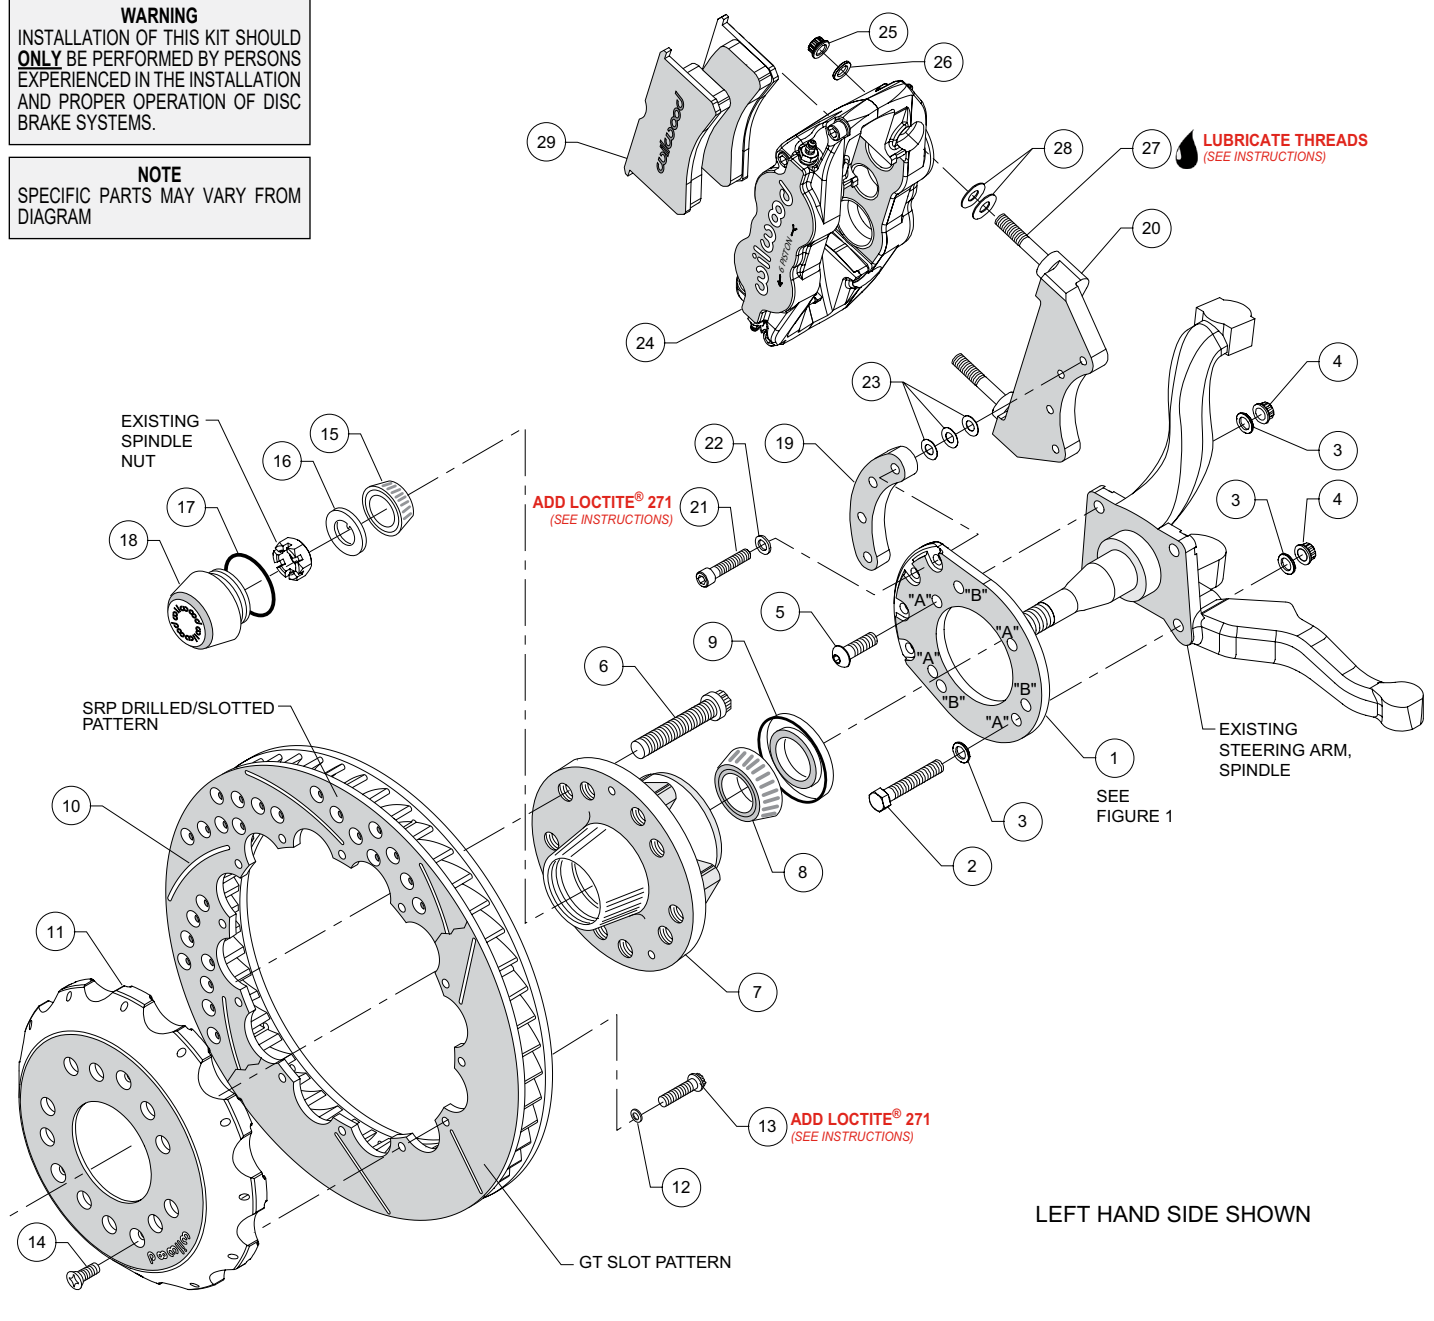

Figure 2. Typical Installation Configuration
NOTE: Numbers in parenthesis refer to the parts list and Figure 2 on the preceding pages.
•Align bracket, using the four "A" holes, to the face of the spindle and attach using bolts (2 and 5), washers (3), and lock nuts (4), as shown in Figure 2 and Photo 1. Temporarily tighten the mounting bolts. **NOTE:** The bracket must fit squarely against the mounting points on the spindle. Inspect for interference from casting irregularities, machining ridges, burrs, etc. Torque lock nuts (4) to 25 ft-lb.
•Install wheel studs (6) into the hub (7), Photo 2. Torque to 77 ft-lb. **NOTE:** There are two five lug patterns in the hub (5 x 4.50 and 5 x 4.75). Ensure the correct hub stud pattern is being used to fit the wheel application.
•Pack the large inner bearing cone (8) with high temperature disc brake bearing grease (available from your local auto parts store) and install into the backside of the hub (7), Photo 3.
•Install the grease seal (9) by pressing into the backside of the hub (7), flush with the end of the hub, Photo 3.
•Pack the small outer bearing cone (15) with high temperature disc brake bearing grease and install into hub (7). Slide the hub assembly onto the spindle. Secure using spindle washer (16) and OEM spindle nut, Photo 4. Adjust bearings per OEM specifications. Install saved OEM nut lock (if any) and a new cotter pin (not included).
•Screw dust cap (18) into hub (7), Photo 5. Friction created by the o-ring (17) on the dust cap keeps it from unscrewing. **NOTE:** The O.D. of the existing OEM spindle washer may be larger than the I.D. of the dust cap not allowing it to seat against the hub face. Therefore, use the spindle washer (16) supplied with the kit instead of the OEM washer.
•Orient the rotor (10) and the hat (11) as shown in Figure 2 and Photo 6. Attach rotor to hat using bolts (13) and washers (12). Apply red Loctite® 271 to the bolt threads and torque to 155 in-lb using
- Slide the hat/rotor assembly (10/11) onto the hub (7) taking care to align the small countersunk holes in the hat with the small threaded holes in the hub (7). **NOTE:** The hat must fit flush against the hub face or excessive rotor run out may result. Install three flat head screws (14) through the small holes in the hat, Photo 5, and torque to 85 in-lb.
- Attach the caliper mounting bracket (20) to the spindle bracket (1) using bolts (21), washers (22), and spacer (19) as shown in Figure 2 and Photo 7. Initially place three .015" thick shims (23) on each bolt between the spacer and the caliper bracket. Temporarily tighten the mounting bolts. Later, after the caliper alignment has been checked, the mount bolts will be secured using red *Loctite*® 271.
- NOTE:** This kit contains distinct right and left hand calipers that must be mounted in a specific direction, as described below. Lubricate the caliper mounting studs (27) with lightweight oil. Initially place two .035" thick shims (28) on each stud between the caliper and the bracket, as shown in Figure 2 and Photo 8. Mount the caliper (24) onto the bracket (20) using lock nuts (25) and washers (26), Figure 2. Ensure that the caliper is mounted so the largest pistons are at the rotor exit end of the caliper, in relation to the direction of rotor rotation. Temporarily tighten the lock nuts and view the rotor through the top opening of the caliper. The rotor should be centered in the caliper, Photo 9. If not, adjust by adding or subtracting shims (23) between the caliper bracket (20) and the spacer (19). Always use the same amount of shims on each of the four mounting bolts. Once the caliper alignment is correct, remove the bracket mounting bolts one at a time, apply red *Loctite*® 271 to the threads, and torque to 25 ft-lb.